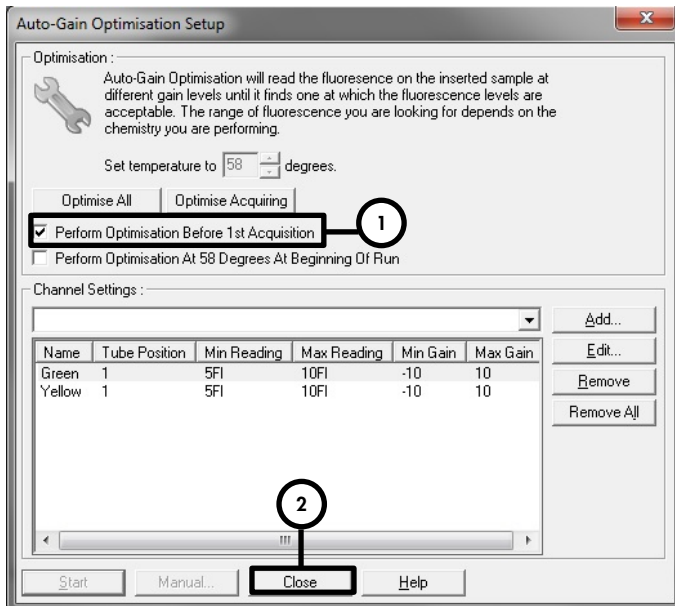

Figure 7. Adjusting the fluorescence channel sensitivity.
Adjusting the fluorescence channel sensitivity	Figure 7
10. The detection range of the fluorescence channels has to be determined according to the fluorescence intensities in the PCR tubes. Click **Gain Optimisation** in the **New Run Wizard** dialog box (see Figure 4, Step 2) to open the **Auto-Gain Optimisation Setup** dialog box (Figure 7). Check the **Perform Optimisation Before 1st Acquisition Box** (Figure 7). Make sure that both channels (Green and Yellow) are selected for **Auto-Gain Optimisation** (Figure 7). (Find channels in the drop-down menu under **Channel Settings** and click **Add**.) Click **Close** of the **Auto-Gain Optimisation Setup** dialog box when the gain calibration is completed.